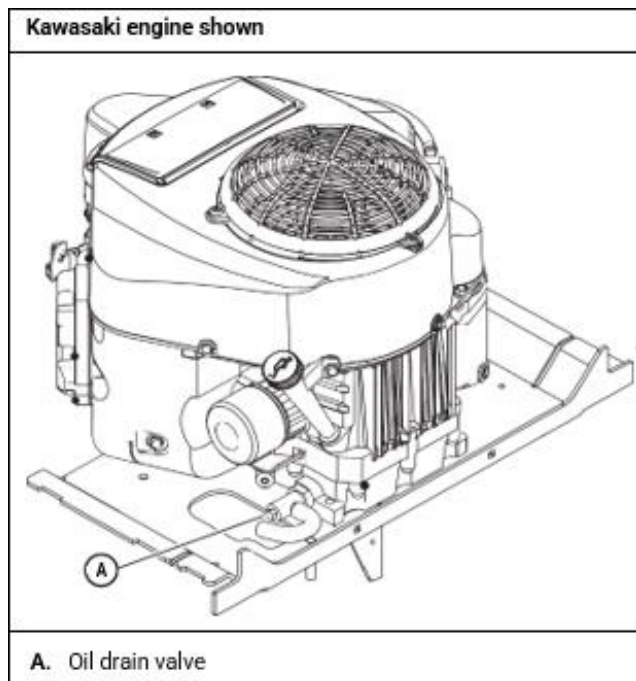

Figure 16
1. Locate the oil drain valve on the lower right side of the engine. [Figure 16]